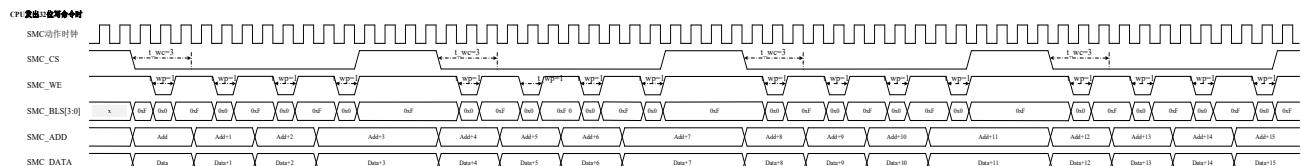

Figure 40-23 Burst write operation basic timing (asynchronous mode (WSYN=0) & 32 bit width (MW=10) & WBL=011)
- f) Table 40-12 and Figure 40-23 is the basic timing chart and setting example of burst write operation.